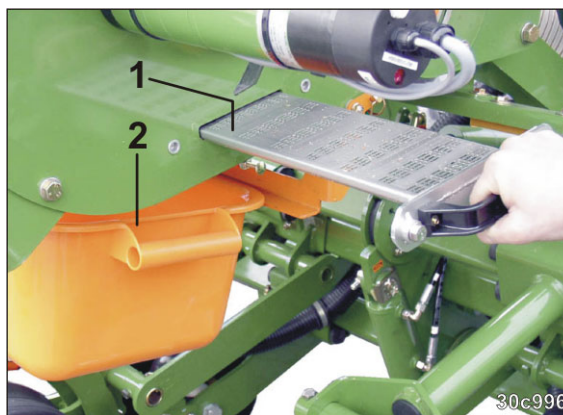

Fig. 260
6. Pull the screen shutter (Fig. 260/1) slowly out of the housing.
→ The seed will drop into the collecting trough (Fig. 260/2).